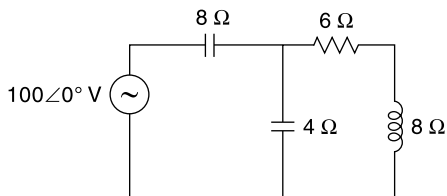

Fig. 5.87 Circuit diagram for Ex. 5.26
31. Determine the total current, power factor and power consumed by the circuit shown in Fig. 5.87.